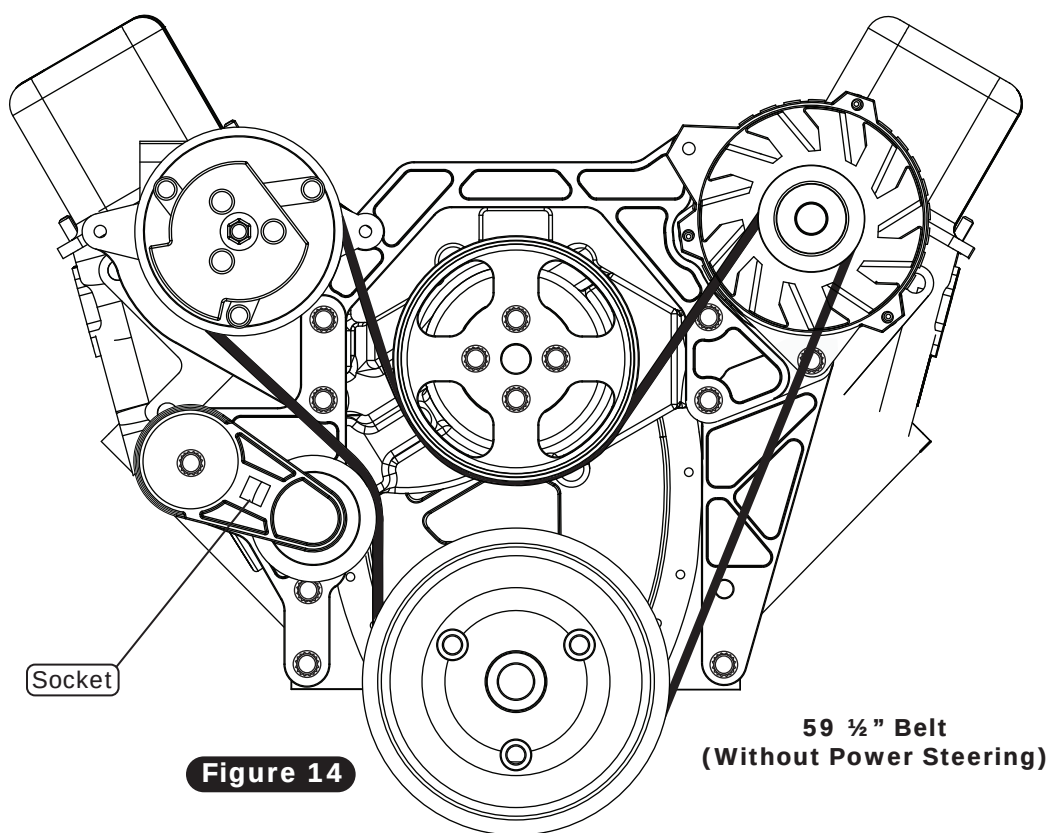

Figure 14
1. Insert a 1/2"-drive ratchet or breaker bar into the socket on the tensioner, and rotate it clockwise to the tensioner stop. Route the belt around the crankshaft pulley and alternator, and over the compressor. Finally, pull the belt down and slide it under the water pump pulley (See Figure 14, below).